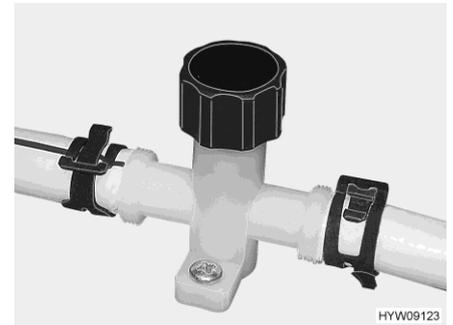
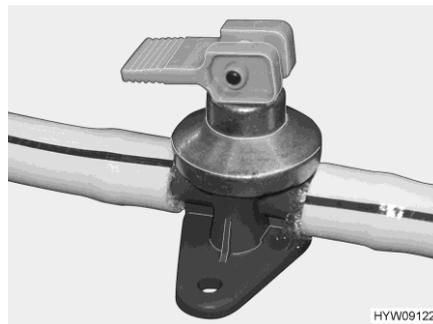

Fig. 191 Drain cock (water pipe)
Fig. 192 Drain cock (Alde boiler)
- Close drain cocks (Fig. 192 and Fig. 191). To do so, close the caps by turning them in a clockwise direction and set the rocking lever in a horizontal position. The position of the safety/drainage valve and the drain cocks is specified in the section 10.6 at the end of this chapter.